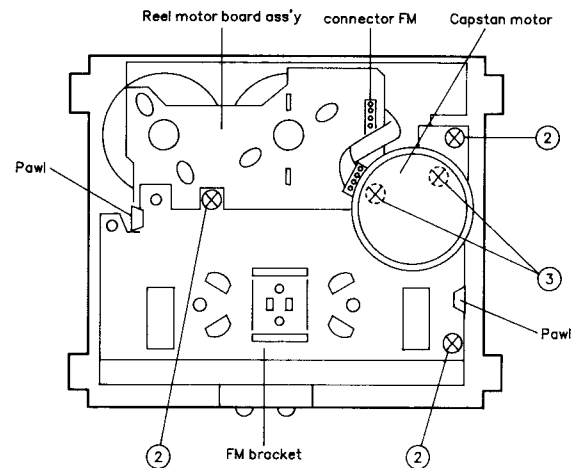

Fig. 2 – 12
4. For reengaging the capstan belt, refer to Fig. 2 – 13.
◆ Flywheel ass'y (Fig. 2 – 14)